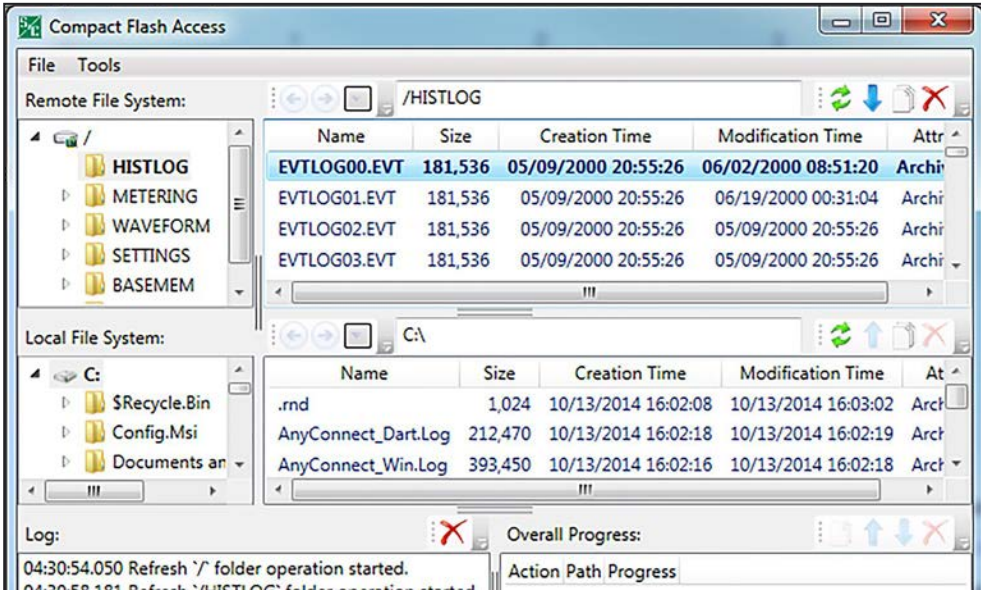

Figure 115. The Compact Flash Access screen.
- STEP 2. Determine which devices participated in the field event for which the Instant Replay is being created. See Figure 115.